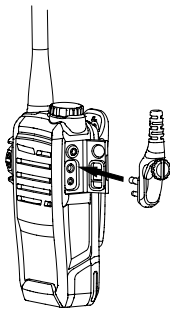

Figure 7
2. Plug the audio accessory firmly into the accessory jack, and then secure the screw, shown as figure 7.